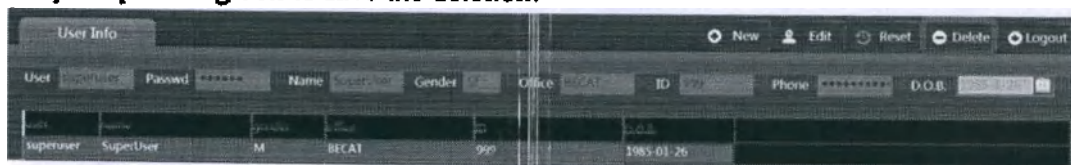

Fig. 6-5 Deleting a user
3. **Deleting a user.** Double-click the user you want to delete in the user list. The information about the selected user is then displayed in the User Management field. Click the "Delete" button in the upper right corner. The control interface is changed to the interface shown in Fig. 6-5. After making changes, press the "Y (Enter)" button in the prompt dialog box to save the deletion.